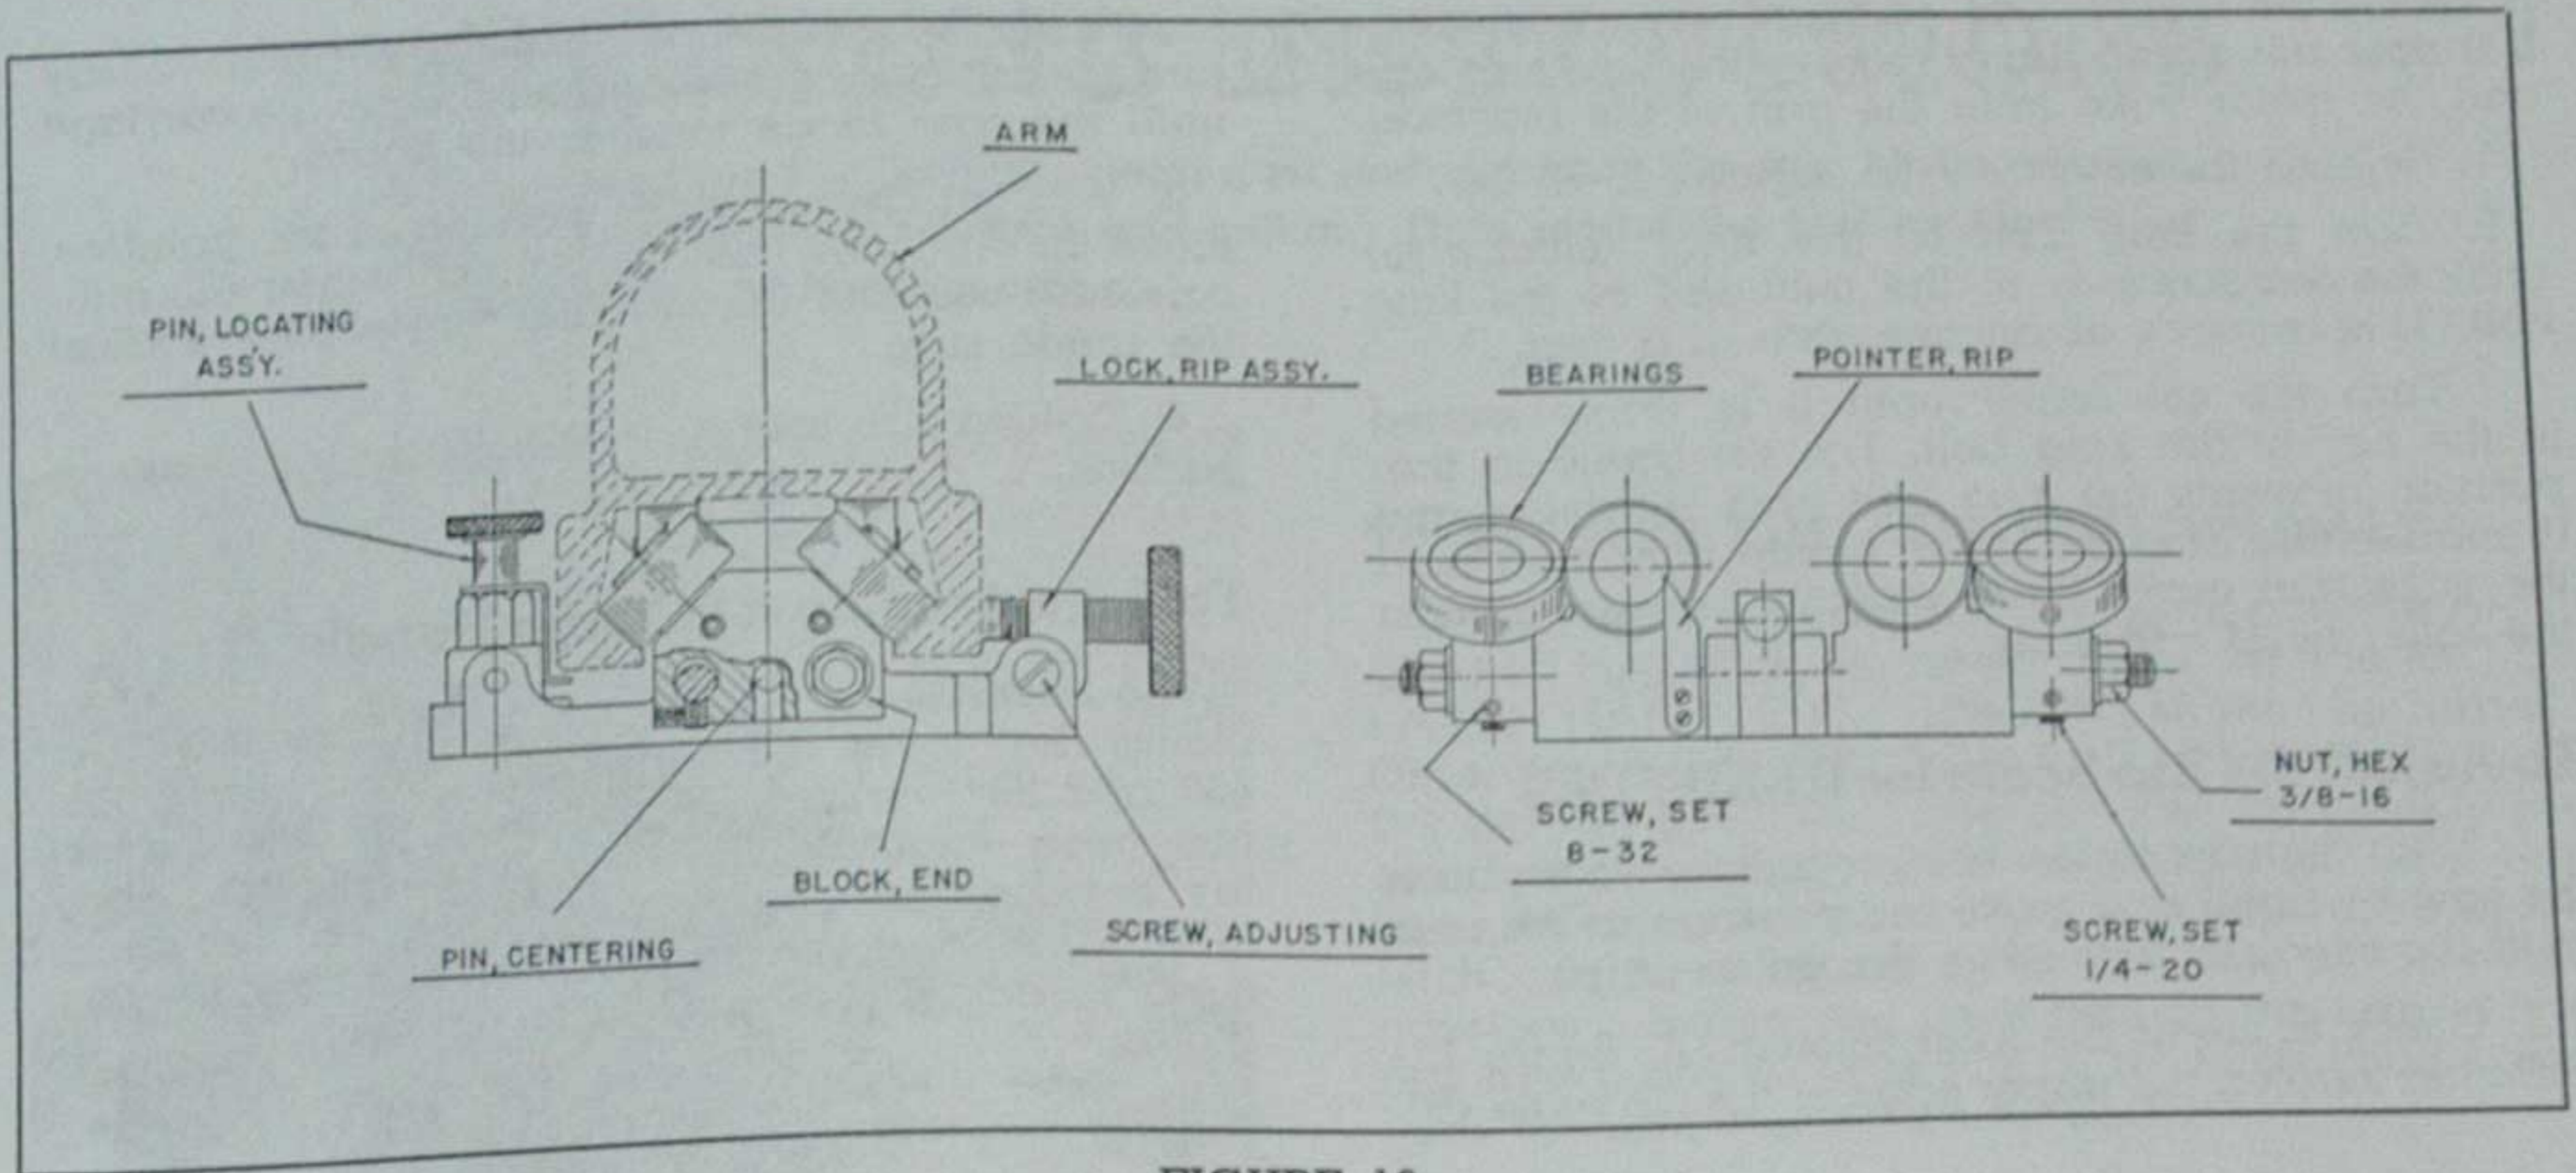

FIGURE 13
1. If they do not, correction can be made by first backing off (one-half turn) the nuts (hex $\frac{3}{8}$ -16) on studs at either end of carriage (Fig. 13).
2. Release $\frac{8}{32}$ " set screw (Fig. 13) that locks in the $\frac{1}{4}$ " screw.
4. After correcting roller contact, the end blocks (Fig. 13) should be adjusted for height by means